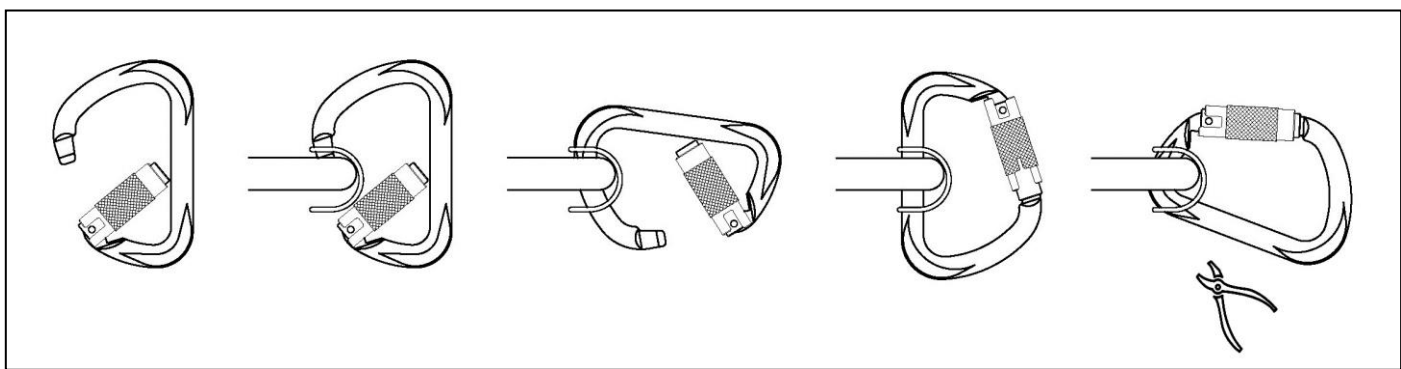

Fig.17 – Assembly method connector with fast
- When the connector is in the right position block the fast using a nipper. The connector must be free to move on the loop but avoiding the capsizing. See figure 17.